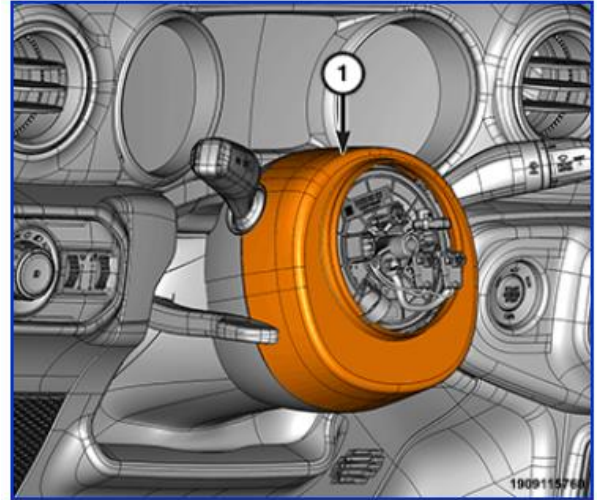

Figure 3 – Outer Steering Column Shroud
12. Separate the outer steering column shroud (1) from the inner steering column shroud and remove the outer steering column shroud (Figure 3).